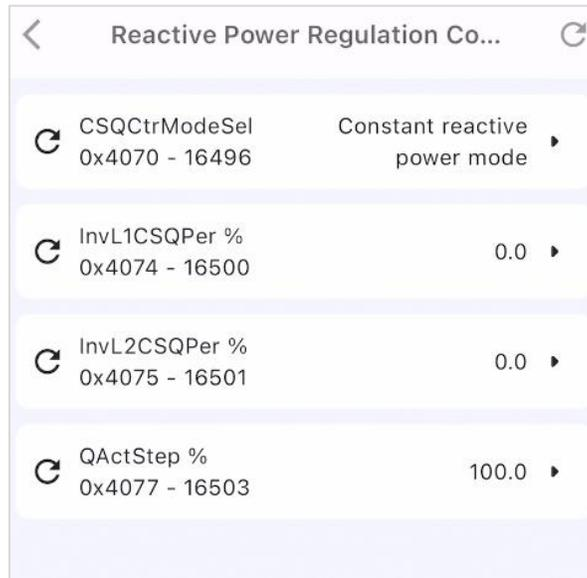

Figure 6-42 Constant Reactive Power Mode
PF(P) curve: PF curve mode; note that the power factor changes according to the power change, as shown in Figure 6-42.